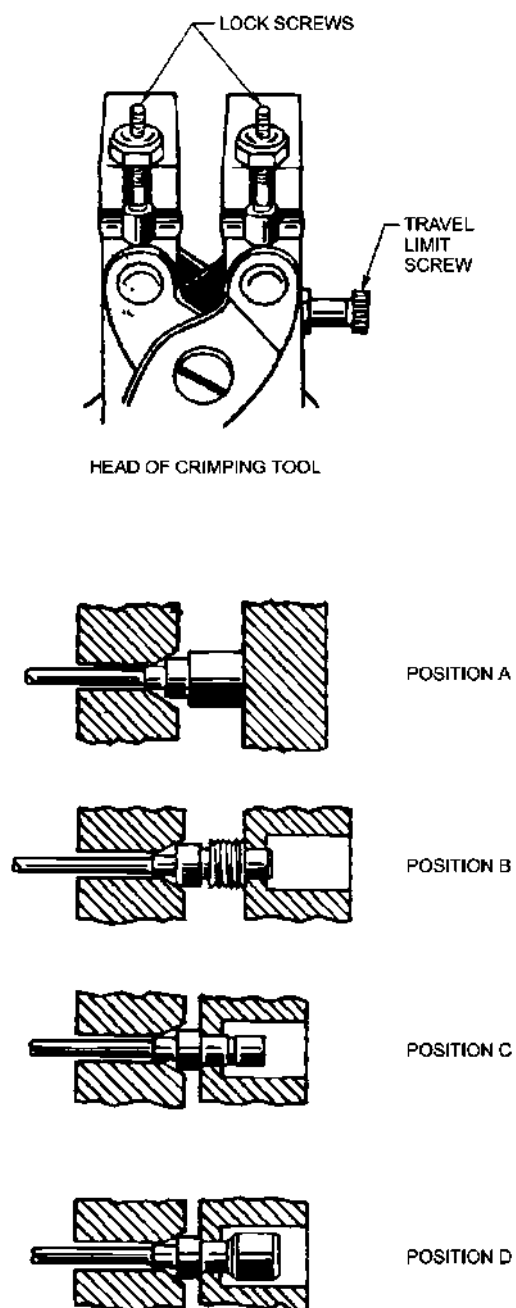

Figure 12-38 Crimping Subminiature RF Connectors
- a.** Open jaws of tool 227-900 by loosening nut and pulling down lock screws (see Figure 12-38). Place the connector assembly in jaws, and set optimum distance between jaws for each assembly by means of the travel limit screw. Refer to connector placement Figure 12-38, A, B and C for straight plugs and jacks, and Figure 12-38, D for angle plugs.